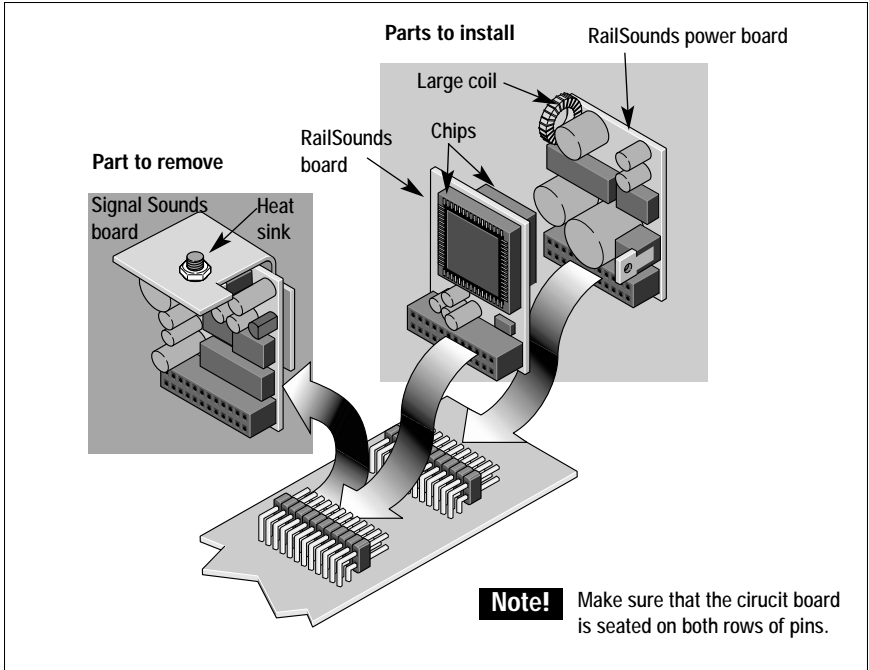
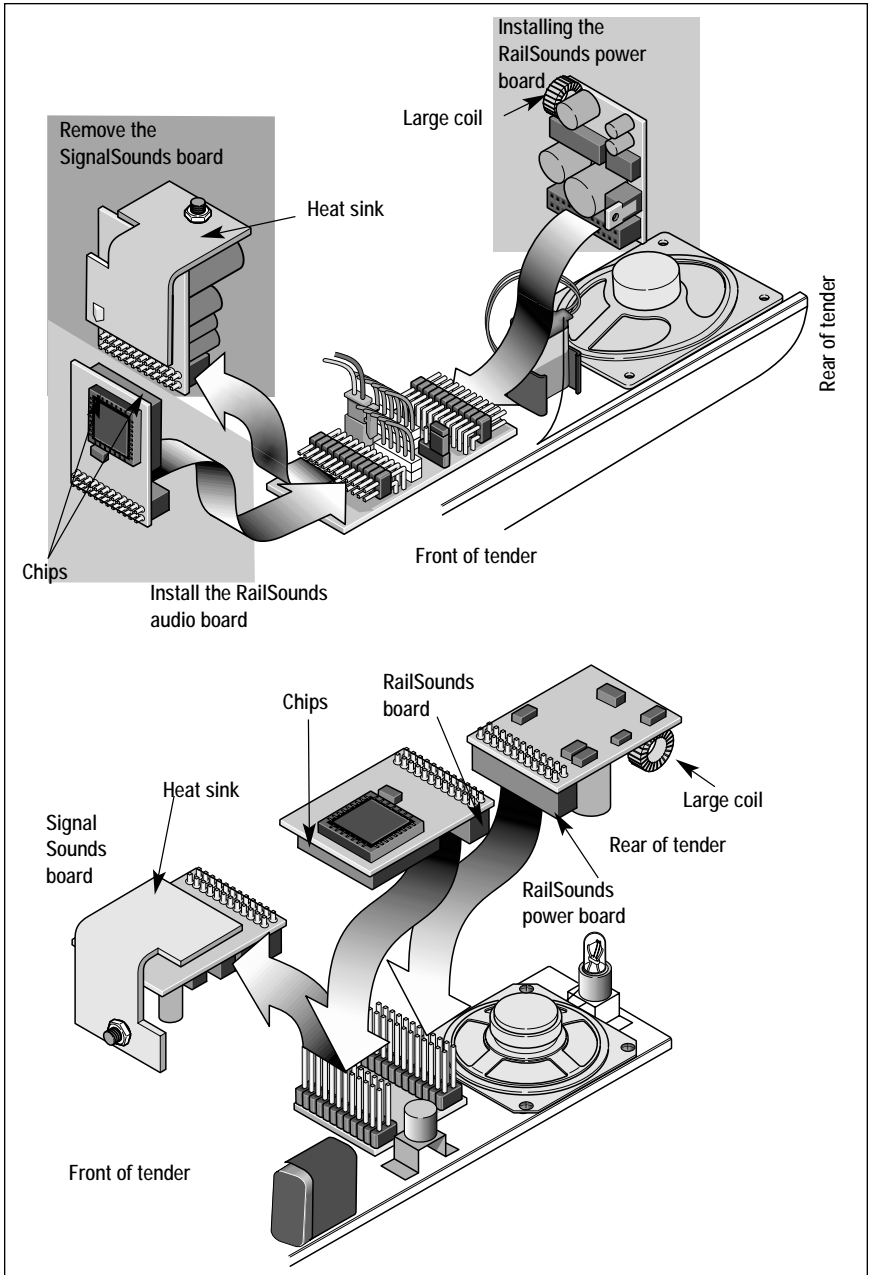

Figure 2. Diesel circuit boards
Figure 3. Steam circuit boards
2. Locate and remove the SignalSounds plug-in circuit board. This circuit board is illustrated in Figure 2 on page 4 (diesel locomotives) and Figure 3 on page 5 (steam locomotives). Store the old SignalSounds circuit board in one of the anti-static bags that is included in the kit.
3. Install the new RailSounds sound system circuit board. As illustrated in Figures 2 on page 4 and Figure 3 on page 5, the RailSounds sound system circuit board replaces the SignalSounds circuit board.